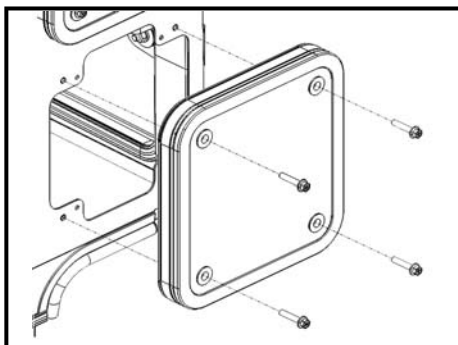

Figure 1.6: Do not install Lower Right Window
- 1.6 Skip the step in the cab install manual to install the lower right rear panel window shown in Figure 1.6.